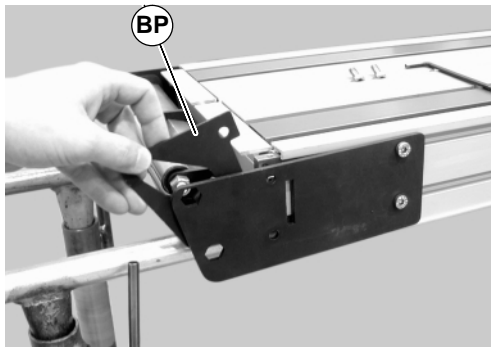

Figure 54
3. Remove the inner spacer (BP of Figure 54).